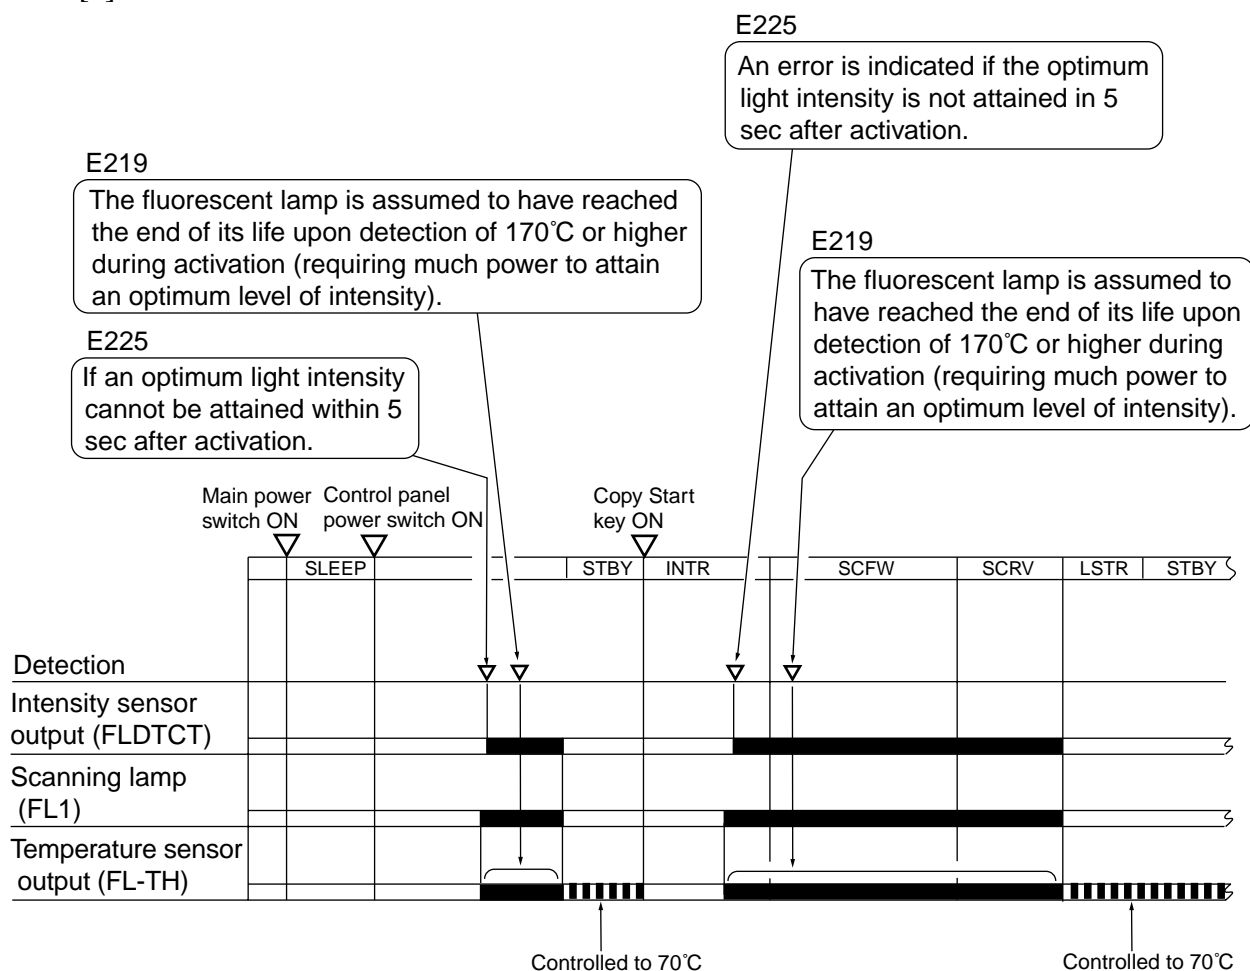

Figure 3-305 Checking the Remaining Life of the Fluorescent Lamp
- [1] Remaining life of the fluorescent lamp (See Figure 3-305.)